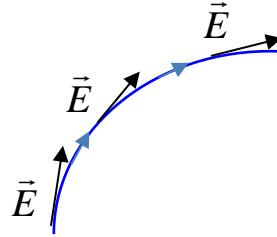

Fig. 1. Electric field line and Electric field
**Electric field lines:** A convenient way of visualizing the electric field produced by a given charge distribution is by drawing lines called electric field lines. An electric field line starts at a positive charge and ends at a negative charge. The strength of the field is proportional to the density of the field lines. The tangent direction of the electric field line at any point gives the direction of the corresponding electric field, as shown in Fig. 1.